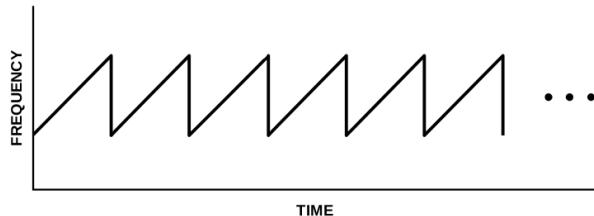
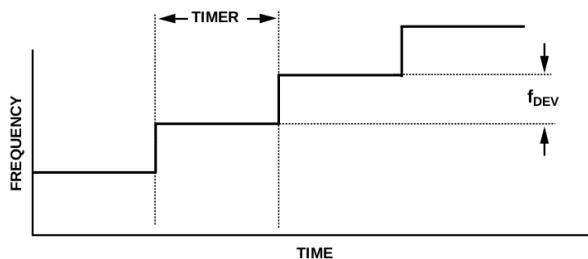

Figure 3.10: Sawtooth ramp.
Figure 3.11: Waveform timing.
The ADF4158 is capable of producing several different waveforms. The one used in this design is a sawtooth ramp in frequency as a function of time, shown in Figure 3.10. There are 3 different parameters that determine the shape of a ramp: (1) frequency deviation (the amount the frequency increases at each time step), (2) timeout interval (the amount of time between each time step) and (3) the number of time steps. This is shown diagrammatically in Figure 3.11. The equations governing these parameters are given in Equation 3.5. The number of steps is set directly in register 6. In our configuration  $f_{\text{DEV}} = 300\text{kHz}$  and Timer =  $0.5\mu\text{s}$ , which given that the number of steps is equal to 2000 and the starting frequency is 5.3GHz, the sawtooth will ramp from 5.3GHz to 5.9GHz in 1ms. We also use a delay between bursts of 2ms. Equation 3.6 is used to derive this.